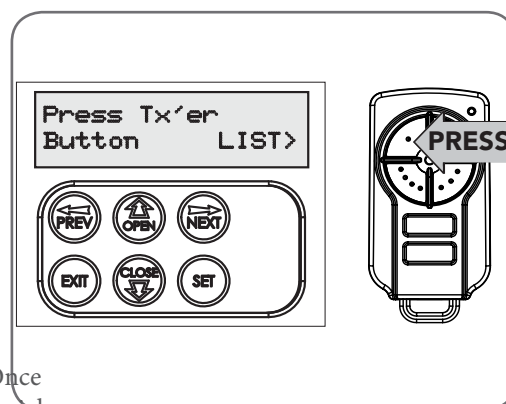

Fig G.2
- Press the transmitter once (Fig. G.2).